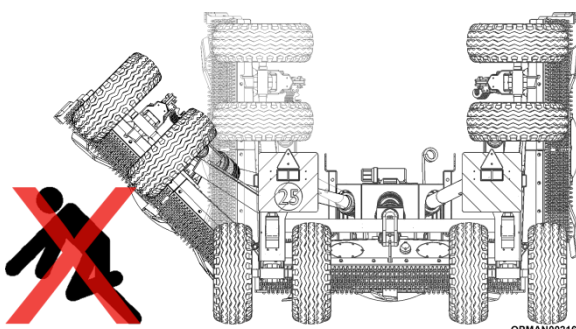

Figure 5.6.4
- 5.6.3.1 Clear the area of all personnel before lowering the wings; see Figure 5.6.4.